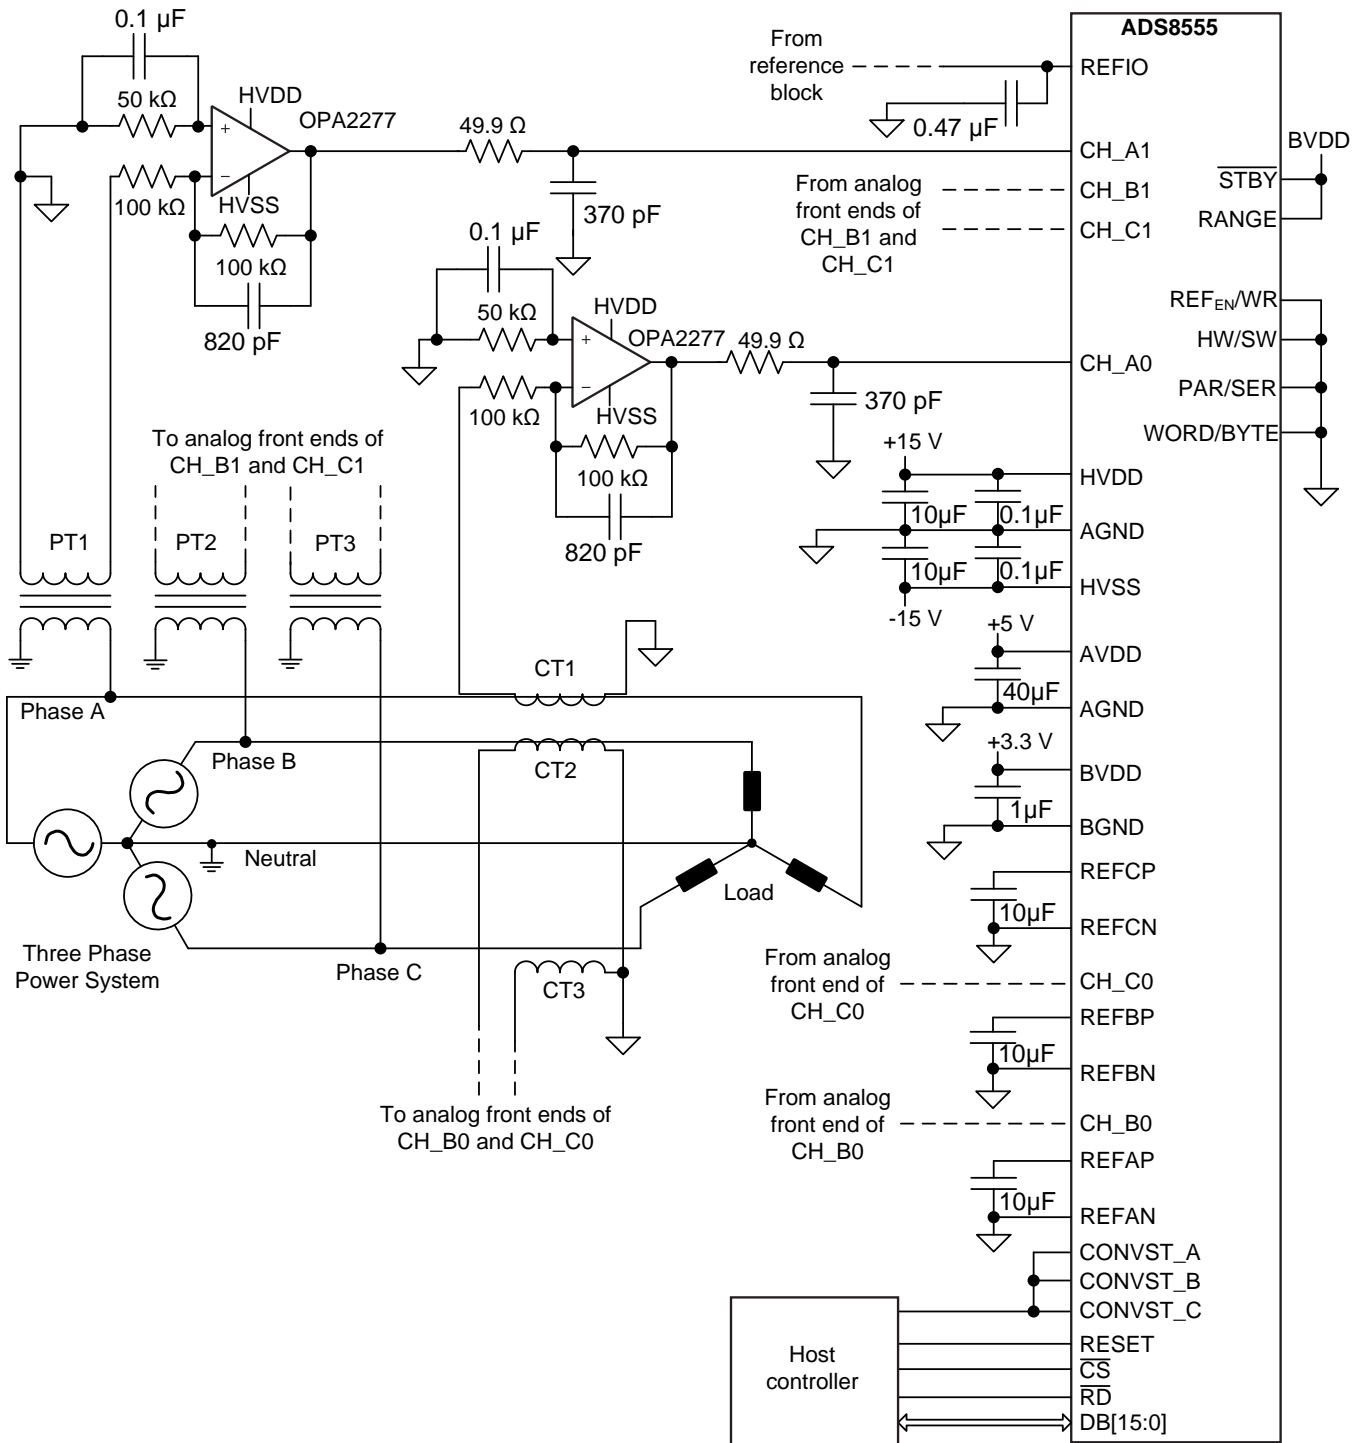

Figure 36. Simultaneous Acquisition of Voltage and Current in a 3-Phase Power System
The accurate measurement of electrical variables in a power grid is extremely critical because it helps determine the operating status and running quality of the grid. Such accurate measurements also help diagnose problems with the power network thereby enabling prompt solutions and minimizing down time. The key electrical variables measured in 3-phase power systems are the three line voltages and the three line currents; see Figure 36. These variables enable metrology and power automation systems to determine the amplitude, frequency and phase information to perform harmonic analysis, power factor calculation and power quality assessment among others.
- Output range of the potential transformers (elements labeled PT1, PT2, and PT3 in Figure 36)
- Output range of the current transformers (elements labeled CT1, CT2, and CT3 in Figure 36)
The potential transformers (PTs) and current transformers (CTs) used in the system depicted in Figure 36 provide the six input variables required. These transformers have a ± 10 -V output range. Although the PTs and CTs provide isolation from the power system, the value of R_{IN} is selected as 100 k Ω to provide an additional, high-impedance safety element to the input of the ADC. Moreover, selecting a low-frequency gain of -1 V/V (as shown in Equation 5) provides a ± 10 -V output that can be fed into the ADS8555 device; therefore, the value of R_F is selected as 100 k Ω .
The primary goal of the acquisition system depicted in Figure 36 is to measure up to 20 harmonics in a 60-Hz power network. Thus, the analog front-end must have sufficient bandwidth to detect signals up to 1260 Hz, as shown in Equation 6.